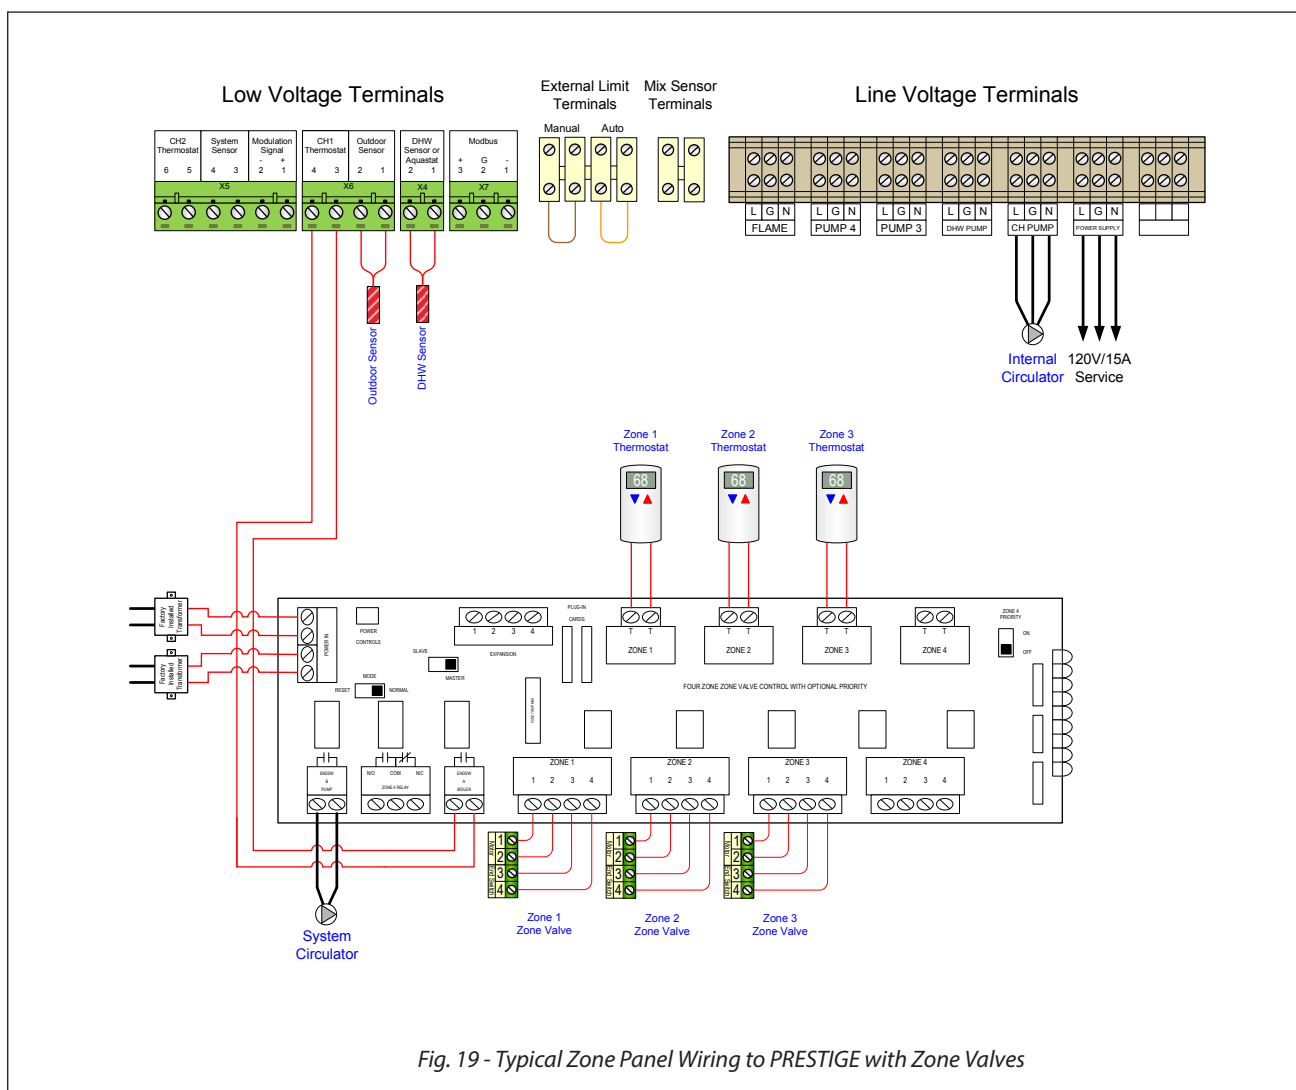

Fig. 19 - Typical Zone Panel Wiring to PRESTIGE with Zone Valves
1. Connect the room thermostat or dry contact zone valve end switch wires to low voltage terminals X6-3&4 or X5-5&6 located at the bottom of the CTRLMax control module as shown in *Fig. 19 above*.